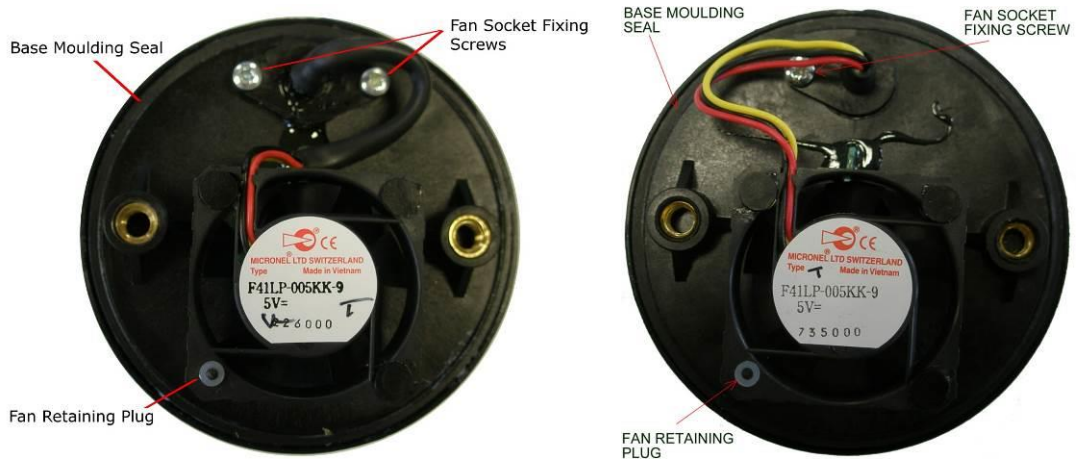

Figure 53 Base Moulding Seal
- Remove and invert the top part of the Detector head. Examine the base moulding seal and replace if damaged or perished (refer to Figure 53).